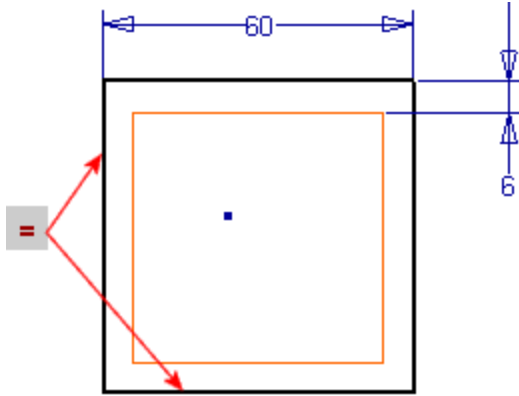

Figure 19: Dimensions and equal constraint.
9. Place a 6mm dimension between the two edges shown in Figure 19. Add a 60mm dimension to one edge of the outer rectangle.